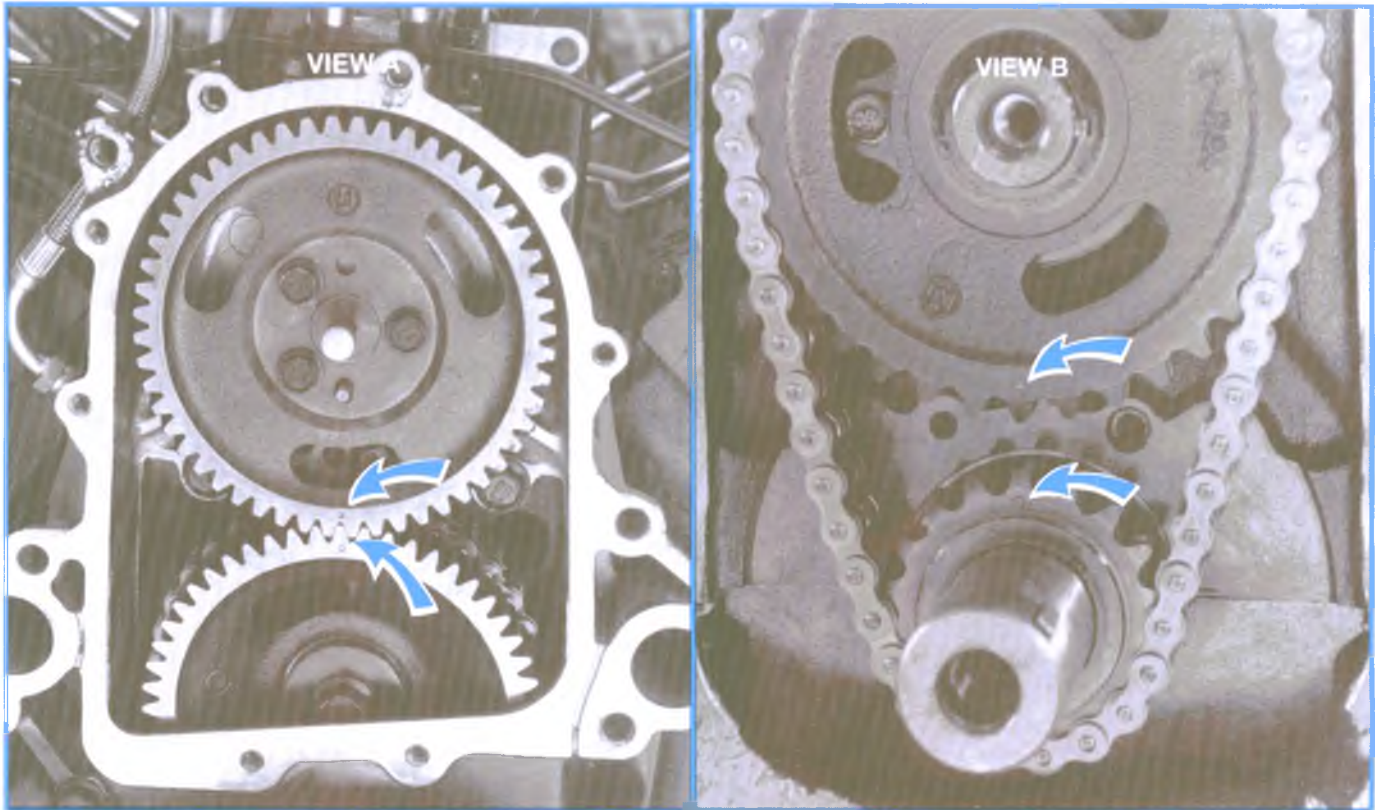

Figure 2-41, Injection Pump and Camshaft Timing Check
5. Inspect that the alignment marks of the injection pump drive and driven gears are next to each other (see Figure 2-41, view A).
9. Inspect that the alignment marks of the crankshaft and camshaft sprockets are next to each other (see Figure 2-41, view B).